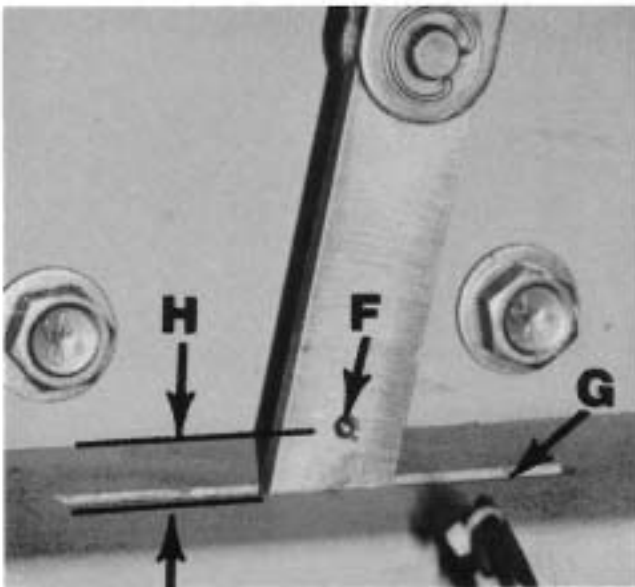

Figure 14: Measuring Contact Wear
12. Use the manual charging handle to barely hold the arcing contacts closed (the moment the light comes on). Observe the red wear dot on the opening spring guide (figure 14). For a new interrupter, dimension “H” measures .41 inches (10.5 mm).
If the bottom edge of the red dot (marked "F" in figure 14) is at or below the top of the frame (marked "G"), the arcing contacts are worn out. All three interrupters should be replaced as a set (no adjustment exists).